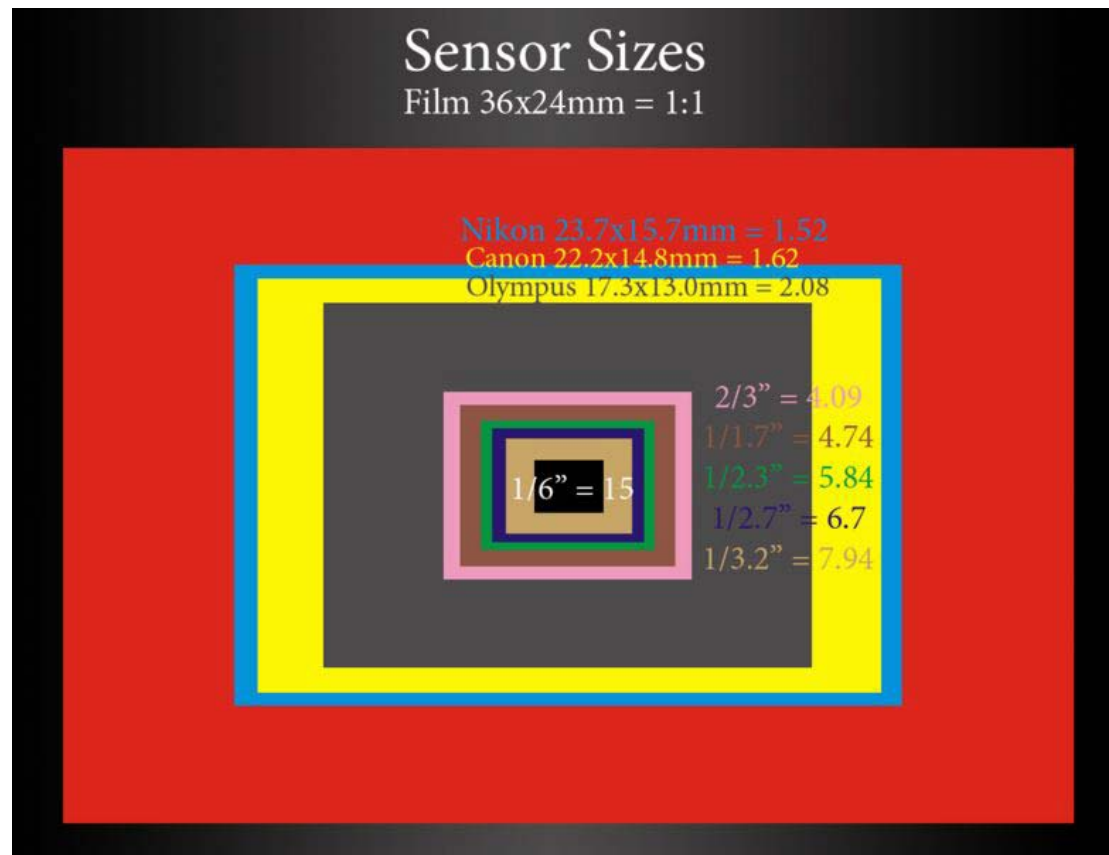

Fig 1.
At this stage there is only one camera known shooting motion picture or video digitally in this format or chip size and that would be the Canon 5D mark2 depicted on the red area in fig 1.
The image in fig.1 can now be seen as taking the red area punch a bunch of perforations on the left and right and some sound on the side and one would end up more or less in the blue yellow and grey areas.
Other manufacturers thought of making cameras more compact and lightweight but still big enough to give you proper picture taking out the mirror reflex viewing system and replacing them with rangefinder and lately digital viewfinders directly of the chip with a almost vibration free shutter resulting in sharper pictures as in the gray area in fig.1 or more commonly known as the four thirds size image as adopted by the compact Leica and Olympus pen range and the very popular Panasonic GH1 to just name a few.
This camera can also shoot 50 frames per second in 1280x720 mode. The manufacturers stuck to this format, since motion picture (PL) lenses are optimized for this size sensor and will vignette, cut off or fall off resolution on the larger 5D size chip. These HD/SLR cameras have a reflex mirror, which also limits its functionality with 3rd party accessories. The other smaller size chips in the fig.1 depicts the conventional HD and video cameras